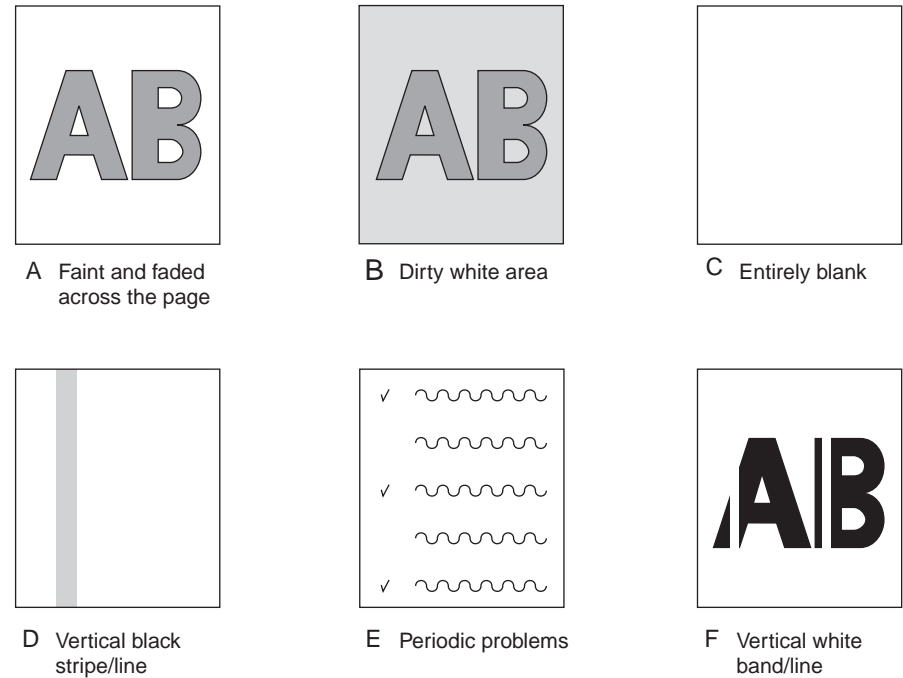

Fig.7-2
- (4) Vertical lines are produced in printed pages. 250
- (4-1) Fine lines (colored) (see Fig. 7-2 D) 250
- (4-2) Fine lines (white) (see Fig. 7-2 F) 250
- (5) Print quality problems appear periodically (see Fig. 7-2 E). 251
- (6) Color misregistration is significant. 251
- (7) Black filled-in printing..... 252
- (8) Color jobs are printed in monochrome, not in color. 252
7.5.5 (1) Color is faint and fades across pages (see Fig. 7-2 A).
7.5.5 (2) The white area of printed pages is dirty (see Fig. 7-2 B).
7.5.5 (3) Printed pages are blank (see Fig. 7-2 C).
(4-1) Fine lines (colored) (see Fig. 7-2 D)
(4-2) Fine lines (white) (see Fig. 7-2 F)
7.5.5 (5) Print quality problems appear periodically (see Fig. 7-2 E).